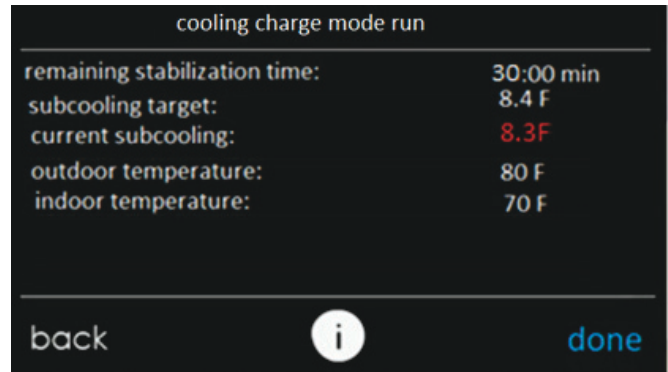

Fig. 19 – Cooling Charge Mode Run Screen A240375
9. Once start has been pressed, the next screen will show the target subcooling that should be attained while charging. If subcooling mode is not available, the current subcooling and target will display as dashes and the refrigerant must be weighed in. Weigh in the charge amount recorded in Step 7. The charge level may then be checked at another time when both the indoor and outdoor temperatures are in a more favorable range that allow for subcooling charging. When subcooling is available, the current subcooling will appear in red (Fig. 19) until the stabilization timer is 0 where it will then turn green, indicating the system has stabilized. “Current subcooling” is calculated using sensors inside the ODU, but may be in error until stabilization time has completed. Compare the “current subcooling” to the “subcooling target” listed on the charging screen. Add refrigerant if the subcooling is low and remove refrigerant if